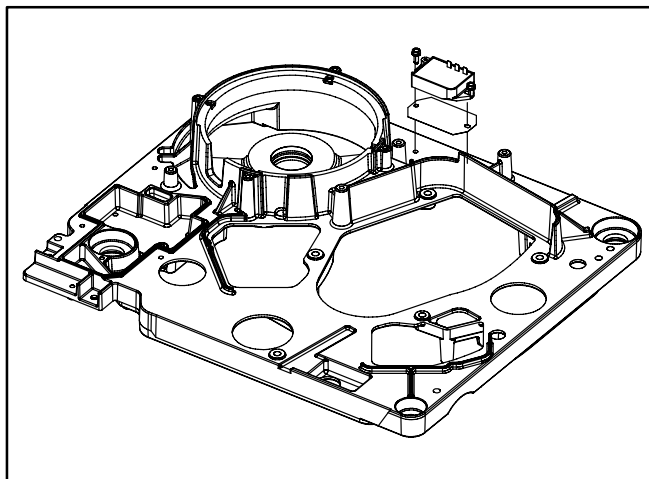

FIGURE 5-7. BATTERY CHARGE REGULATOR VR
**Mounting:** When the genset is so equipped, the regulator and heat sink are mounted as shown on the engine-generator mounting base (Figure 5-7).